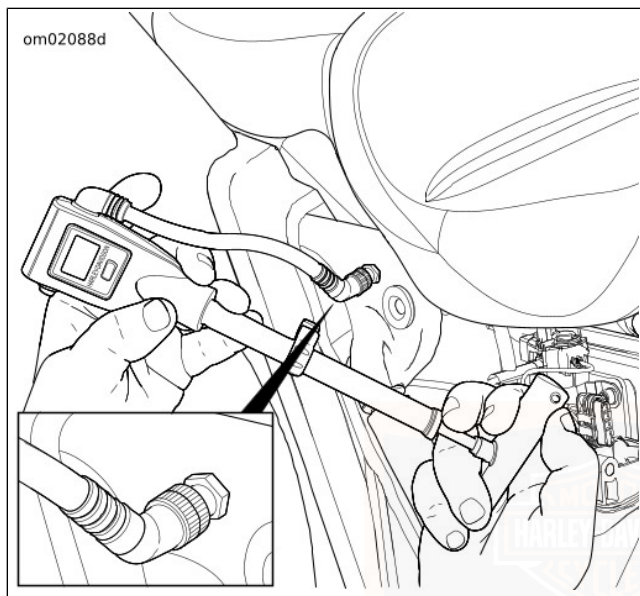

Figure 28. Adjusting Shock Air Pressure
- b. **Inflate pressure:** See Figure 28. Pull out the handle. Rotate the handle to the T-position. Pump until the display indicates the recommended pressure.